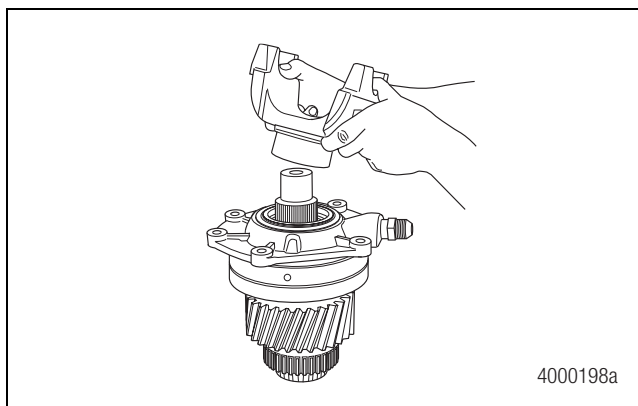

Figure 4.11
2. Use a yoke puller to remove the front input yoke. Figure 4.11.